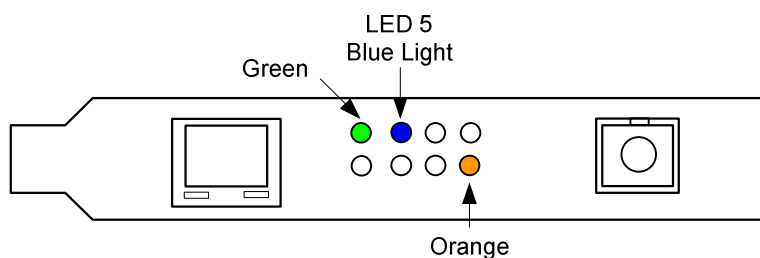

Figure 4-2. LED State for DAG 6.1S Card Without Optical Input.
**Figure** Figure 4-2 shows the correct LED state for DAG 6.1S card without optical input.